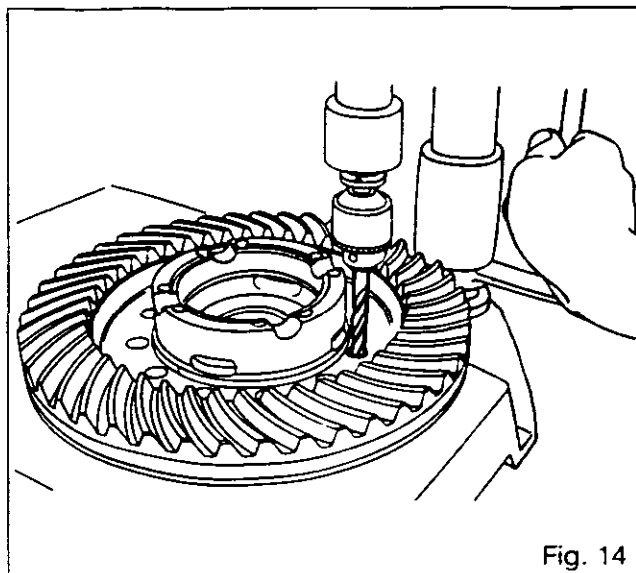

Fig. 14
50. Make a centre mark in the centre of each rivet (24) (crownwheel teeth side).
51. Drill the rivets to a depth of 10 mm with a 5 mm diameter drill (Fig. 14).